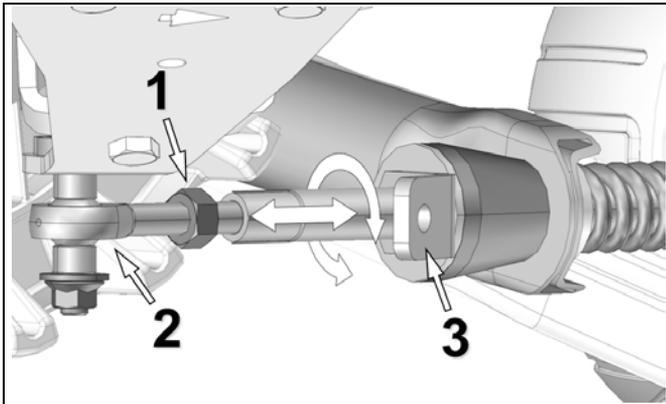

Figure 3
- Loosen jam nut (1). Adjust length of rod end (2) by rotating the steering limiter support plate on (3) the stabilizing arm. Use a 30 mm [1 3/16 in] wrench to rotate support plate to obtain **308 mm [12 1/8 in]** above the ground. Refer to Figure 3.